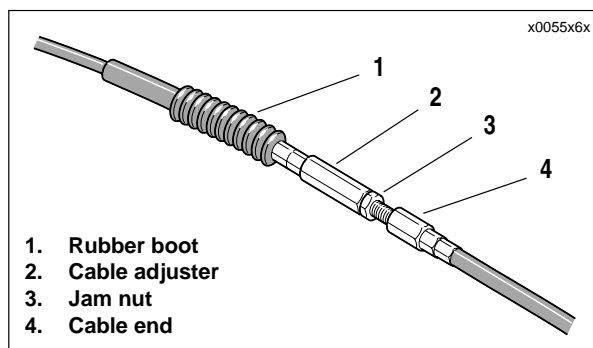
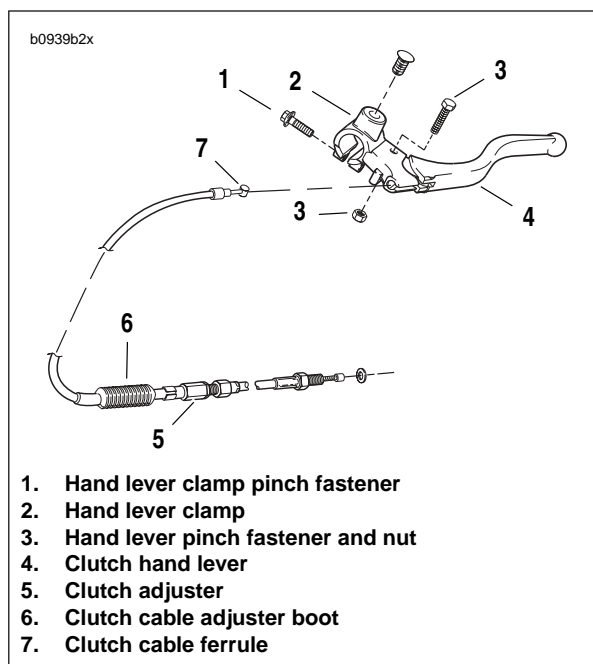

Figure 2-94. Clutch Cable Adjuster Mechanism
Figure 2-95. Clutch Hand Control Assembly
8. See Figure 2-94. Slide clutch cable adjuster boot (1) up to access clutch adjuster (2).
9. Loosen clutch adjuster (2) to release tension from hand lever and clutch release mechanism.
10. See Figure 2-95. Remove clutch cable ferrule (7) from hand lever (4).